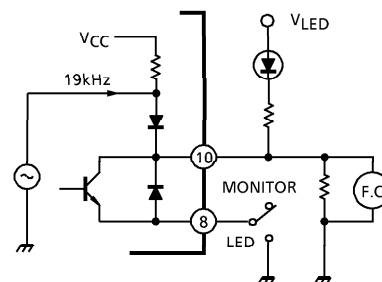

Fig.3
The LED terminal pin⑩ can be used as  $f_{VCO}$  (19kHz) monitor terminal, in case that the terminal pin⑧ is open, as Fig.3.